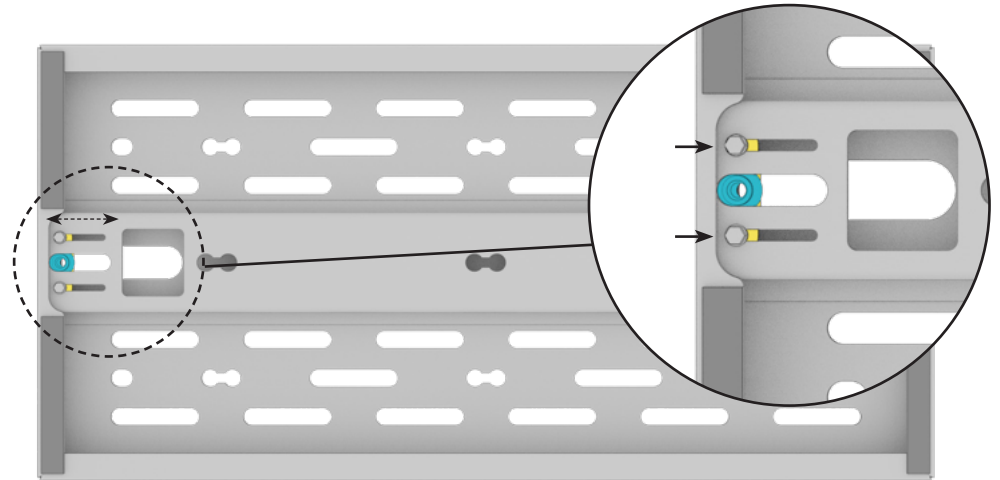

FIG 43
7.1 Fit and Adjust Bed Panels: Loosen the **1/4-20 x 0.75 Flanged Hex Head Screws** in the locations shown in **FIG 43** and adjust the **Bed Panel Mounting Bushings** until it centered between the two **Wheel Well Cabinets**. Tighten up the screws once you are satisfied with the fitment.